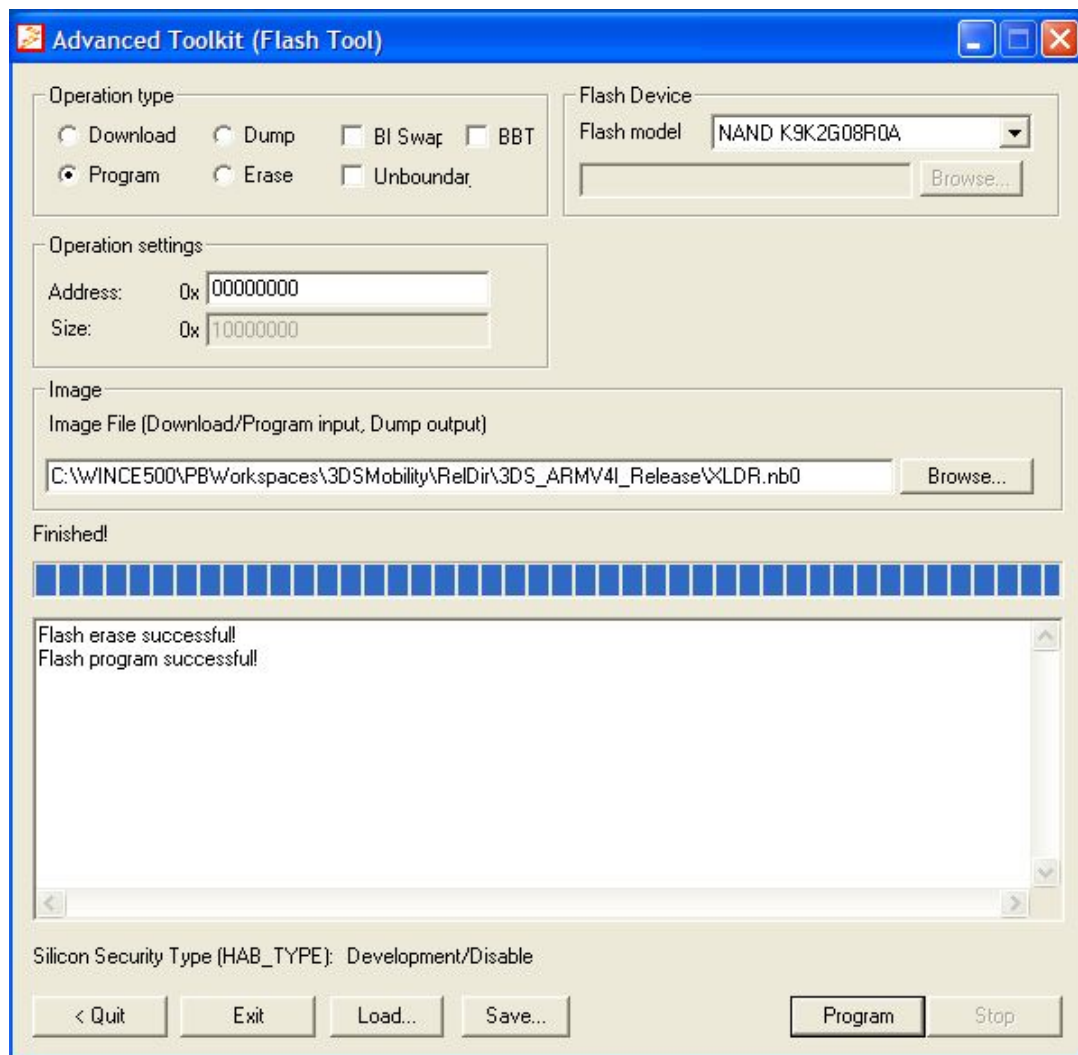

Figure 5-4 XLDR.nb0 Programming
2. Select the options shown in Figure 5-4, and then click **Program** and wait until flashing is successful.